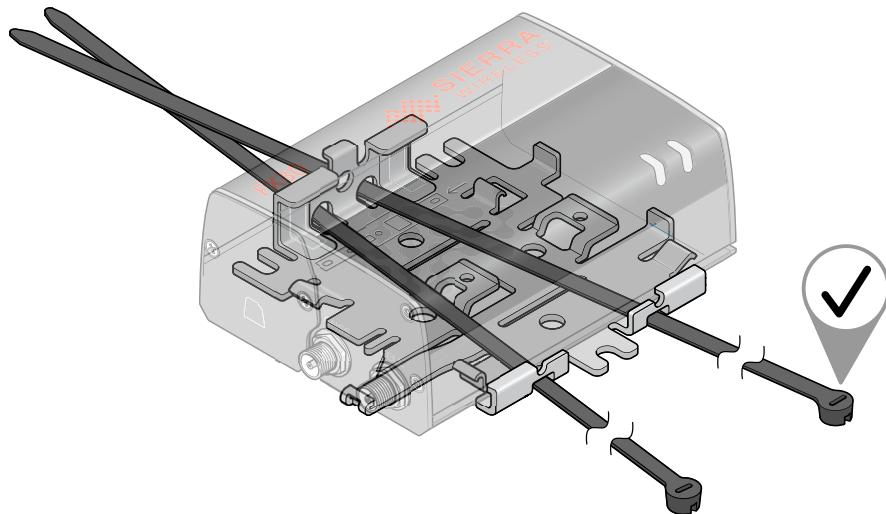

Figure 2-5: Inserting the cable ties
1. Thread the ties into the holes on one side of the bracket and out the holes on the other side of the bracket, as shown in Figure 2-5 on page 15.